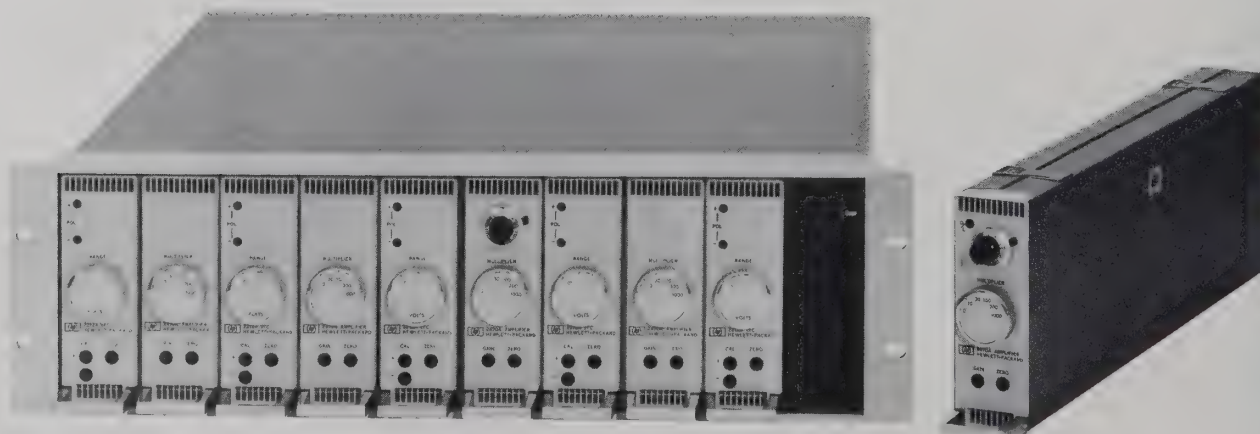

Figure 1-3. HP 12500A Combining Case
1-13. COMBINING CASE. The combining case (Figure 1-3) contains up to ten vfc's and includes wired mating connectors for all units. The ac power connections are brought out to a single receptacle at the rear of the case and a 7-1/2 foot NEMA-terminated power cable is furnished. System connections are wired to a rear panel receptacle with capacity for 50 contacts. Sufficient coaxial inserts (30) are supplied to complete input and output signal wiring to the mating receptacles at the rear of the case. Rack mount adapters and a 50-60 Hz fan for cooling the vfc's are included. A 115/230V switch on the rear panel of the case sets the fan for operation from the line voltage being used. The combining case accessory number is 12500A. A blank panel to cover unused space in this case to assure correct ventilation of instruments is accessory number 12504A. Mating plug for the system connector is stock number 5060-2464.